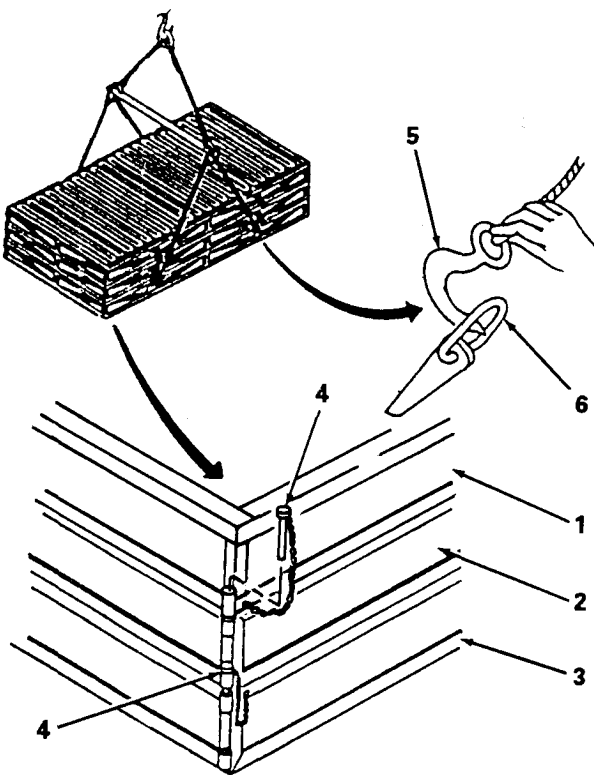

Figure 2-1. Prepare Flaking Boxes.
(3) *Prepare flaking boxes.* Prepare flaking boxes for hose-laying as follows (figure 2-1):
- (a) Ensure that first box (1) to second box (2) and second box (2) to third box (3) retaining pins (4) are securely in place.